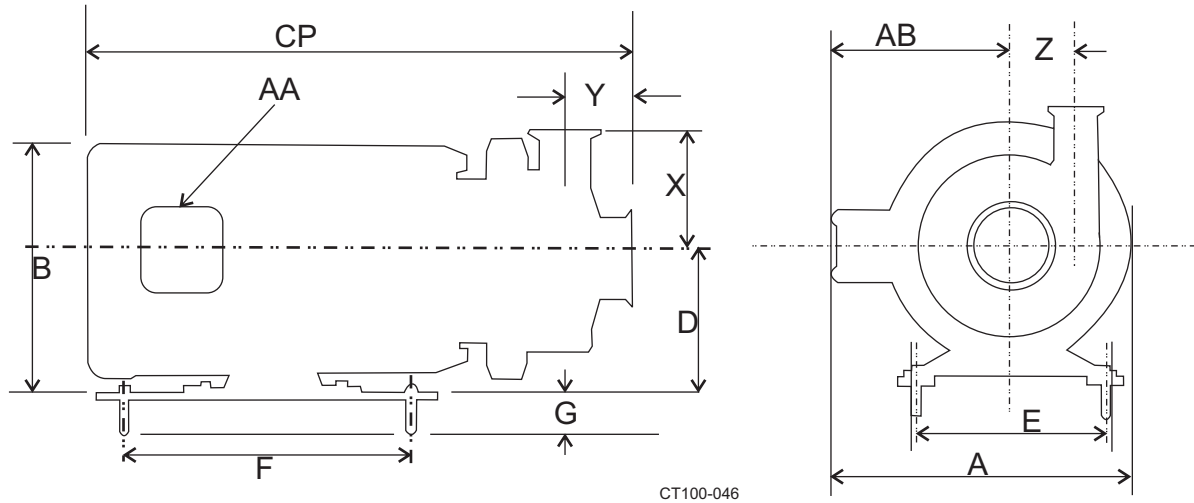

Figure 5 - Dimensions
**NOTE:** Figure 5 dimensions are continued on page 12.
**Table 3: Table of Dimensions, continued (ref. Figure 5 on page 11)**
**Table 4: Table of Dimensions, continued (ref. Figure 5 on page 11)**